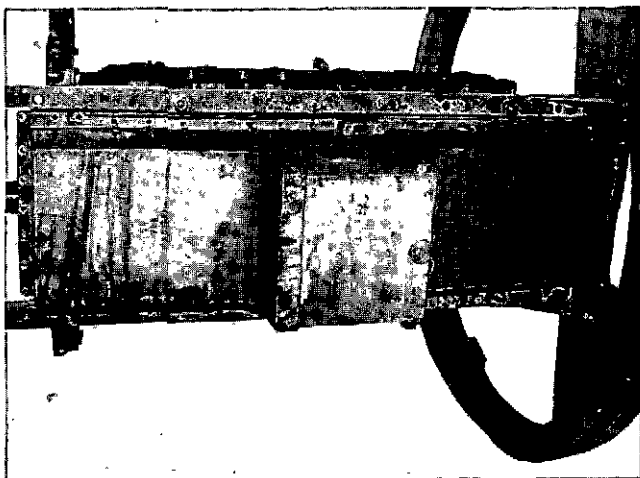

Fig. 14-1-96, V40072. Installing oil pan
3. Assemble oil pan to block but leave capscrews loose. Fig. 14-1-96.